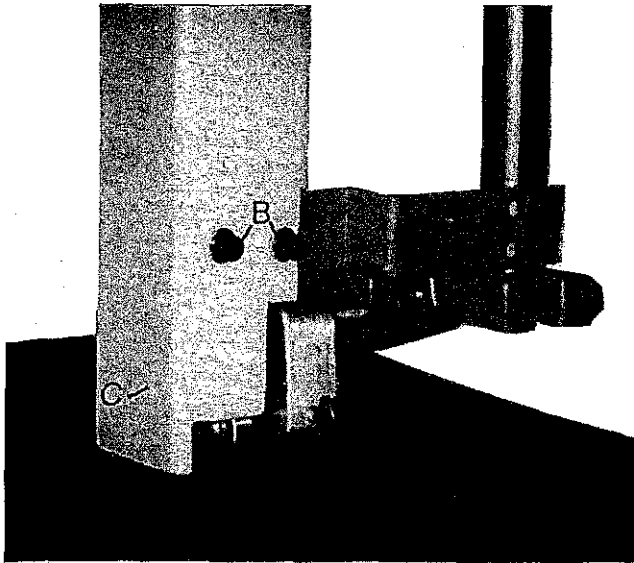

FIG 11
3. Check that scale indicates correct sawblade width. If scale is incorrect, tension sawblade to maximum tension by handwheel "A", FIG.11.
2. Loosen caphead screws "B", FIG.11, and remove sawguard "C".
6. Refit sawguard "C", FIG.11 and secure with caphead "B".